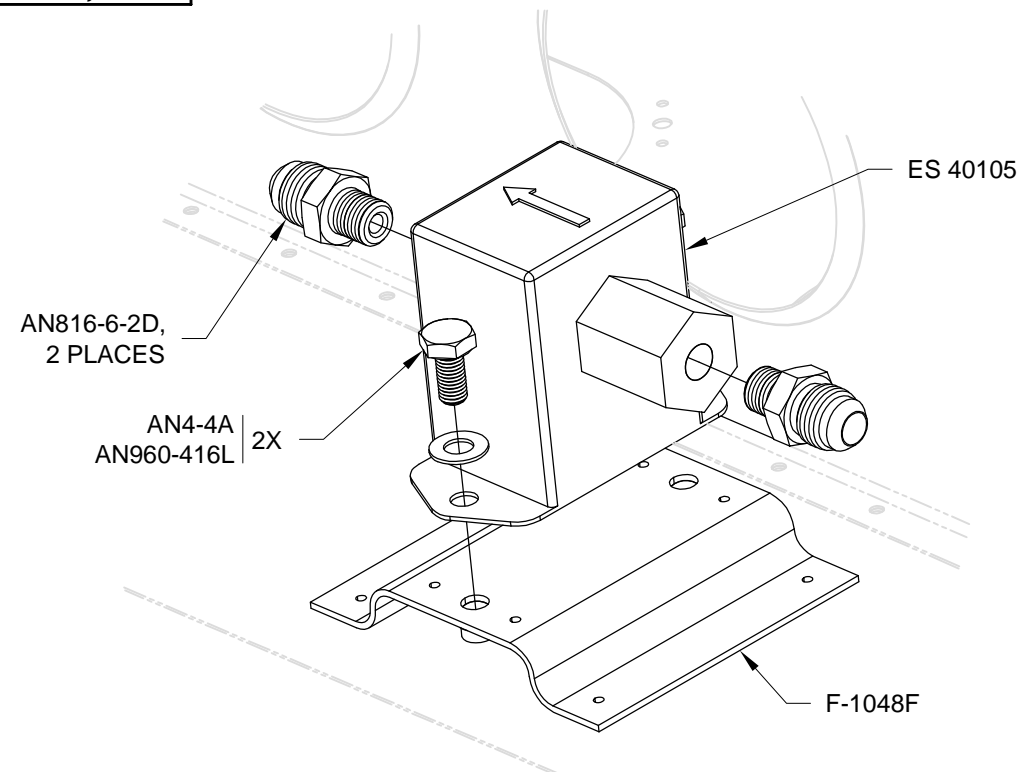

FIGURE 1: INSTALLING THE FUEL PUMP
Step 1: Install fluid fittings into the ES 40105 Fuel Pump as shown in Figure 1 (use a small amount of pipe thread sealant).
Step 2: Install the ES 40105 Fuel Pump to the F-1048F Facet Pump Bracket as shown in Figure 1 (check the flow direction).